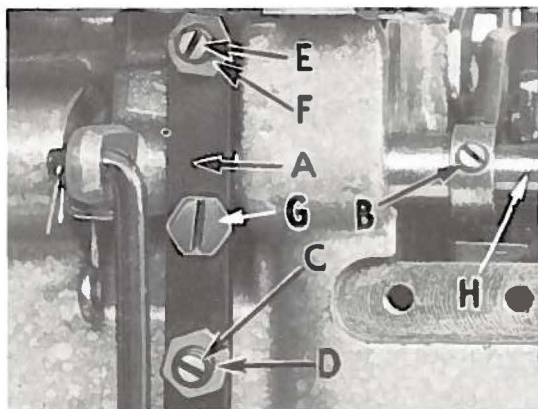

Fig. 16
It is also important that the bottom of the presser foot be flat on the throat plate. If necessary, presser foot can be realigned with throat plate slots by shifting the foot lifter lever shaft (H, Fig. 16). To move the shaft, loosen collar screws (B, Fig. 16) and clamp screw (G) and then shift the foot lifter lever shaft to the left or right as required. Retighten collar screws and clamp screw.
The foot lifter lever arm (A, Fig. 16) and the collar (B) secure the shaft. Be sure the presser arm does not bind and rise when presser foot release bushing is unlocked.